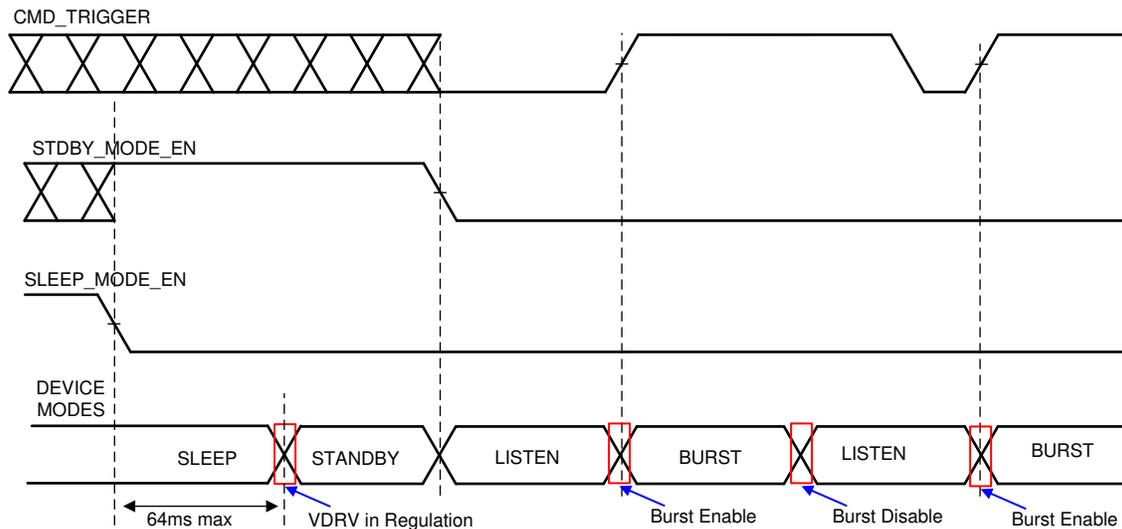

图 22. Device Modes Timing Diagram
**图 22** shows an example of the transitions between the different modes of the device for IO_MODE = 0, where the burst is activated through a SPI command and end of burst occurs as the number of programmed pulses are sent.